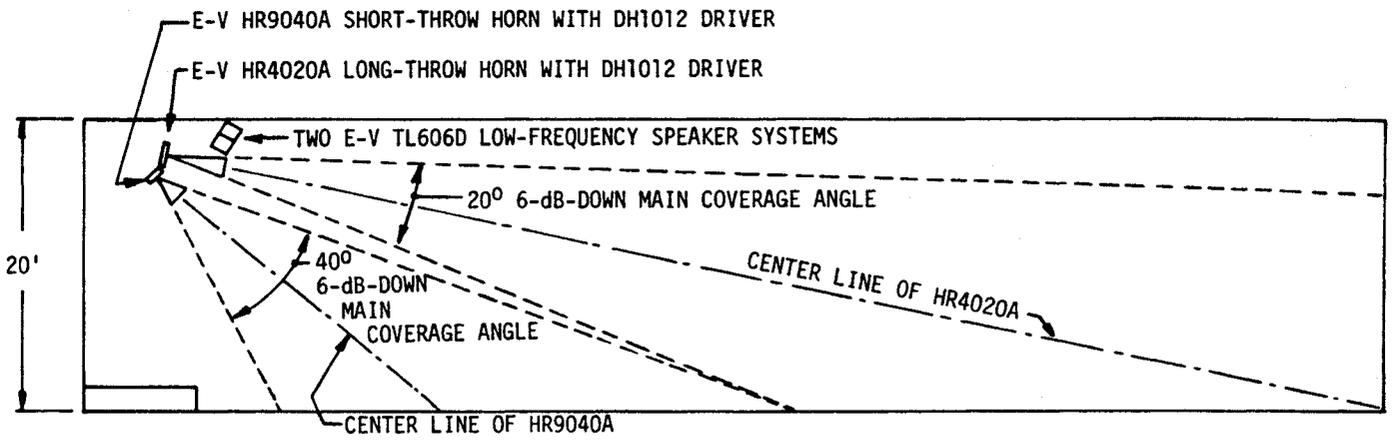

FIGURE 21 – Elevation View of Large Size Room, Permanent Installation
**Some Thoughts on Permanent Installation Systems.** In most cases where a temporary sound system is used, the system is stacked on either side of the stage such as the systems shown so far. This usually cannot be avoided by the one-time operation of most groups, but it does have some problems. It blocks the view of some listeners and it causes interference of sound waves in the room because sound is coming from two points separated by a large distance. One somewhat more refined solution is to make one central cluster such as the one shown in Figures 21 and 22.